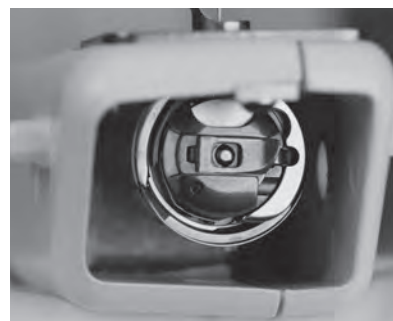

Figure 14
- 2. Do not lift the lever** on bobbin case. Fit the bobbin case onto the hook spindle in the machine. Rotate the casing until the open throat keys into the middle notch in the hook. Push the bobbin case inward until it clicks into place (**Figure 14**).